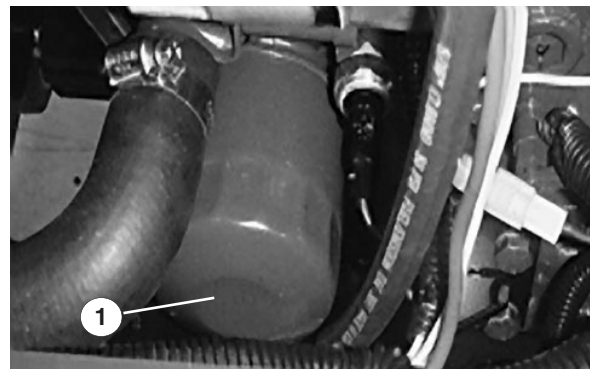

Figure 25
5. Remove and replace the oil filter (Fig. 25).